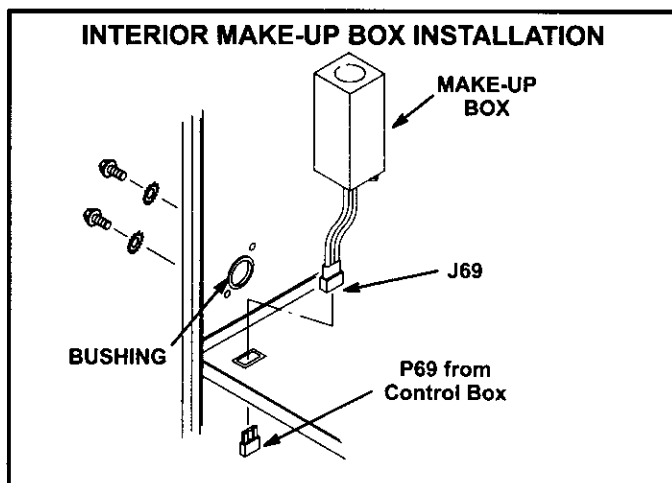

FIGURE 25
A field make-up box is provided for line voltage wiring. Line voltage wiring to unit is done through the J69 jack from the field make-up box to plug P69 from the control box. See figures 25 and 26 for make-up box installation.
- 1 - Install field make-up box on either side, inside or out of the cabinet. Knockouts are provided in box and cabinet to run wiring. See figures 25 and 26.